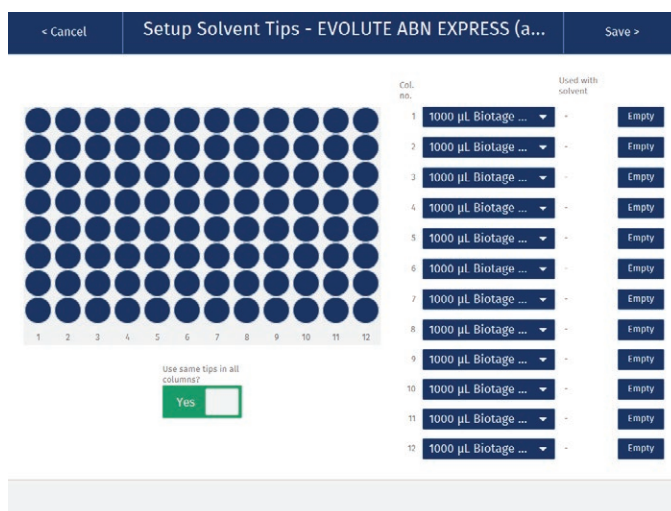

Figure 25. If you are using the same pipette tip in all rack columns, enable the Use same tips in all columns option.
14. Press the illustration of the solvent tips in the software, and set up the tips according to what you have loaded onto the system; see Figure 25. When done, press **Save** in the top pane.